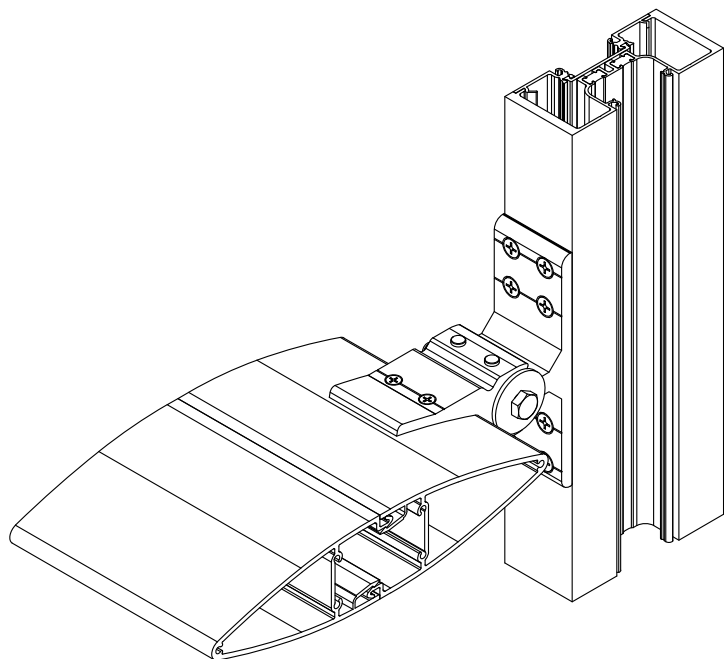

FIGURE 26
- 10) SolarEclipse II sunshades may be installed on Series 3000 & 6000 Multiplane Center Set and 3000XT and 6000XT Storefront systems. See FIGURES 26, 27 & 28 on page 17 for additional mullions available for the 3000 Multiplane Center Set and the 3000XT systems. Similar installation is available for the 6000 Multiplane Center Set and 6000XT systems. Sunshades should not be installed on the standard mullions such as FG-3495.